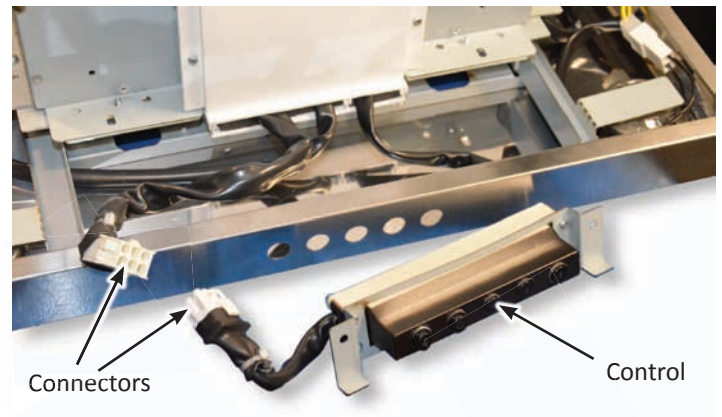

Figure 3
7. Disconnect harness and remove control, see figure 3.